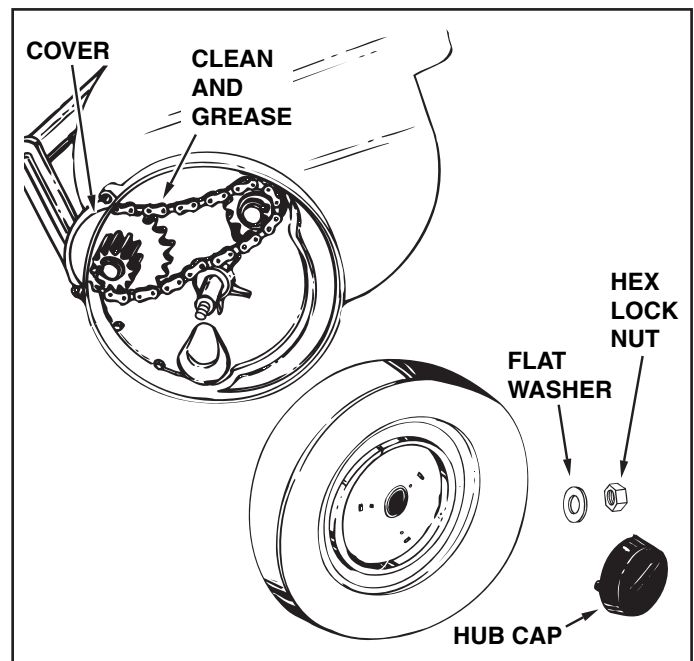

FIGURE 25
- Every two years, remove the wheels and clean the sprockets, chains and gears found inside the wheel housing. After cleaning, lubricate with an even coat of light grease. To remove the wheel, pop off the hub cap using a screwdriver and remove the lock nut and flat washer. See figure 25.